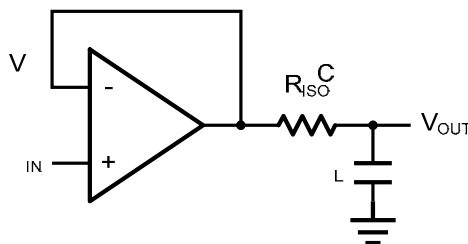
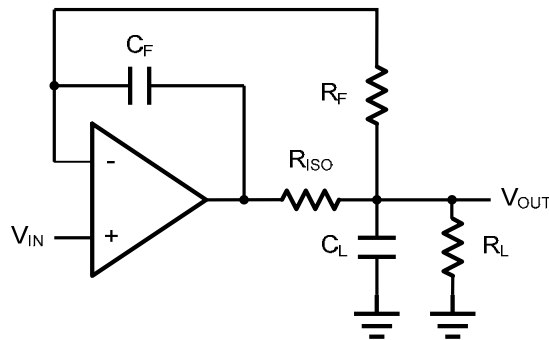

Figure 2 Indirectly Driving a Capacitive Load Using Isolation Resistor
Figure 3. Indirectly Driving a Capacitive Load with DC Accuracy
The HMCP600X family is optimized for bandwidth and speed, not for driving capacitive loads. Output capacitance will create a pole in the amplifier's feedback path, leading to excessive peaking and potential oscillation. If dealing with load capacitance is a requirement of the application, the two strategies to consider are (1) using a small resistor in series with the amplifier's output and the load capacitance and (2) reducing the bandwidth of the amplifier's feedback loop by increasing the overall noise gain. Figure 2 shows a unity gain follower using the series resistor strategy. The resistor isolates the output from the capacitance and, more importantly, creates a zero in the feedback path that compensates for the pole created by the output capacitance.
The circuit in Figure 3 is an improvement to the one in Figure 2.  $R_F$  provides the DC accuracy by feed-forward the  $V_{IN}$  to  $R_L$ .  $C_F$  and  $R_{ISO}$  serve to counteract the loss of phase margin by feeding the high frequency component of the output signal back to the amplifier's inverting input, thereby preserving the phase margin in the overall feedback loop. Capacitive drive can be increased by increasing the value of  $C_F$ . This in turn will slow down the pulse response.